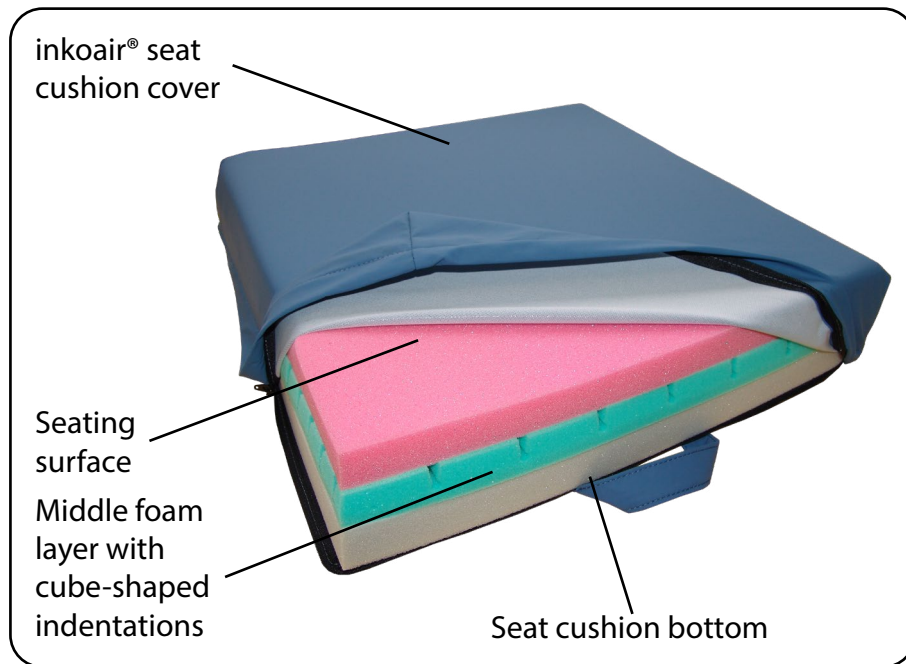
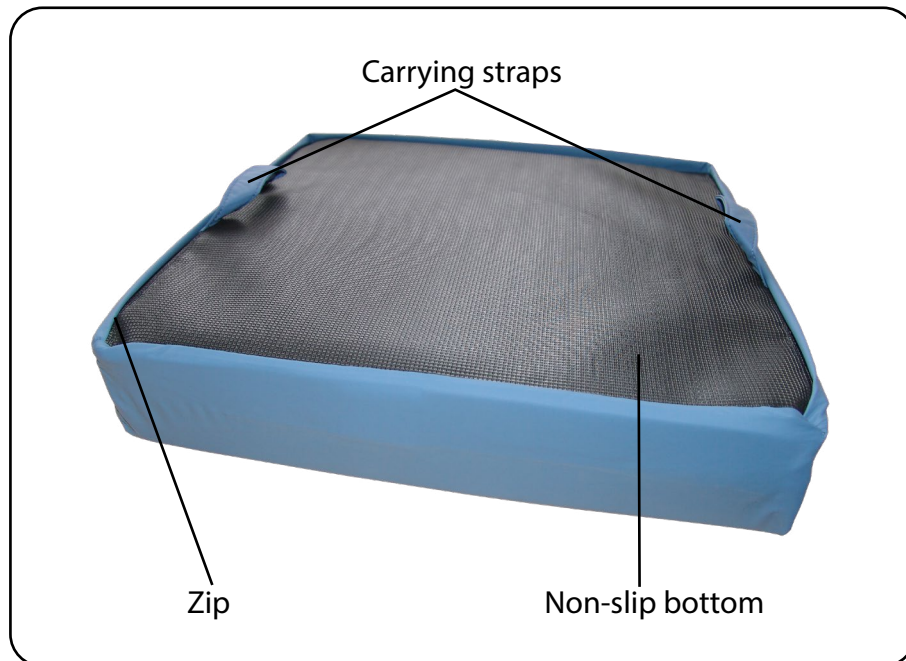
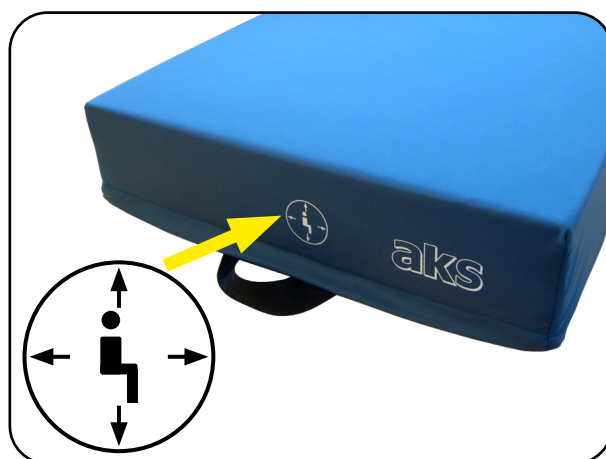

Fig. 5.01 - Top
Fig. 5.02 - Bottom
Fig. 6.01 Marking on inkoair® seat cushion cover
4. If the product is covered with an inkoair® seat cushion cover, the blue side is the top side (Fig. 5.01). The front of the seat cushion must be placed on the front of the seat and can be identified by the fact that it is the side of the seat cushion cover on which there is no zip. In addition, a symbol indicates the correct orientation of the seat cushion in relation to the patient (Fig. 6.01).
- The non-slip cover side is the bottom and must be placed on the bottom of the seat cushion (Fig. 5.02).
- The carrying straps on the seat cushion cover must lie laterally on the front of the seat cushion (Fig. 5.02 and Fig. 6.01).